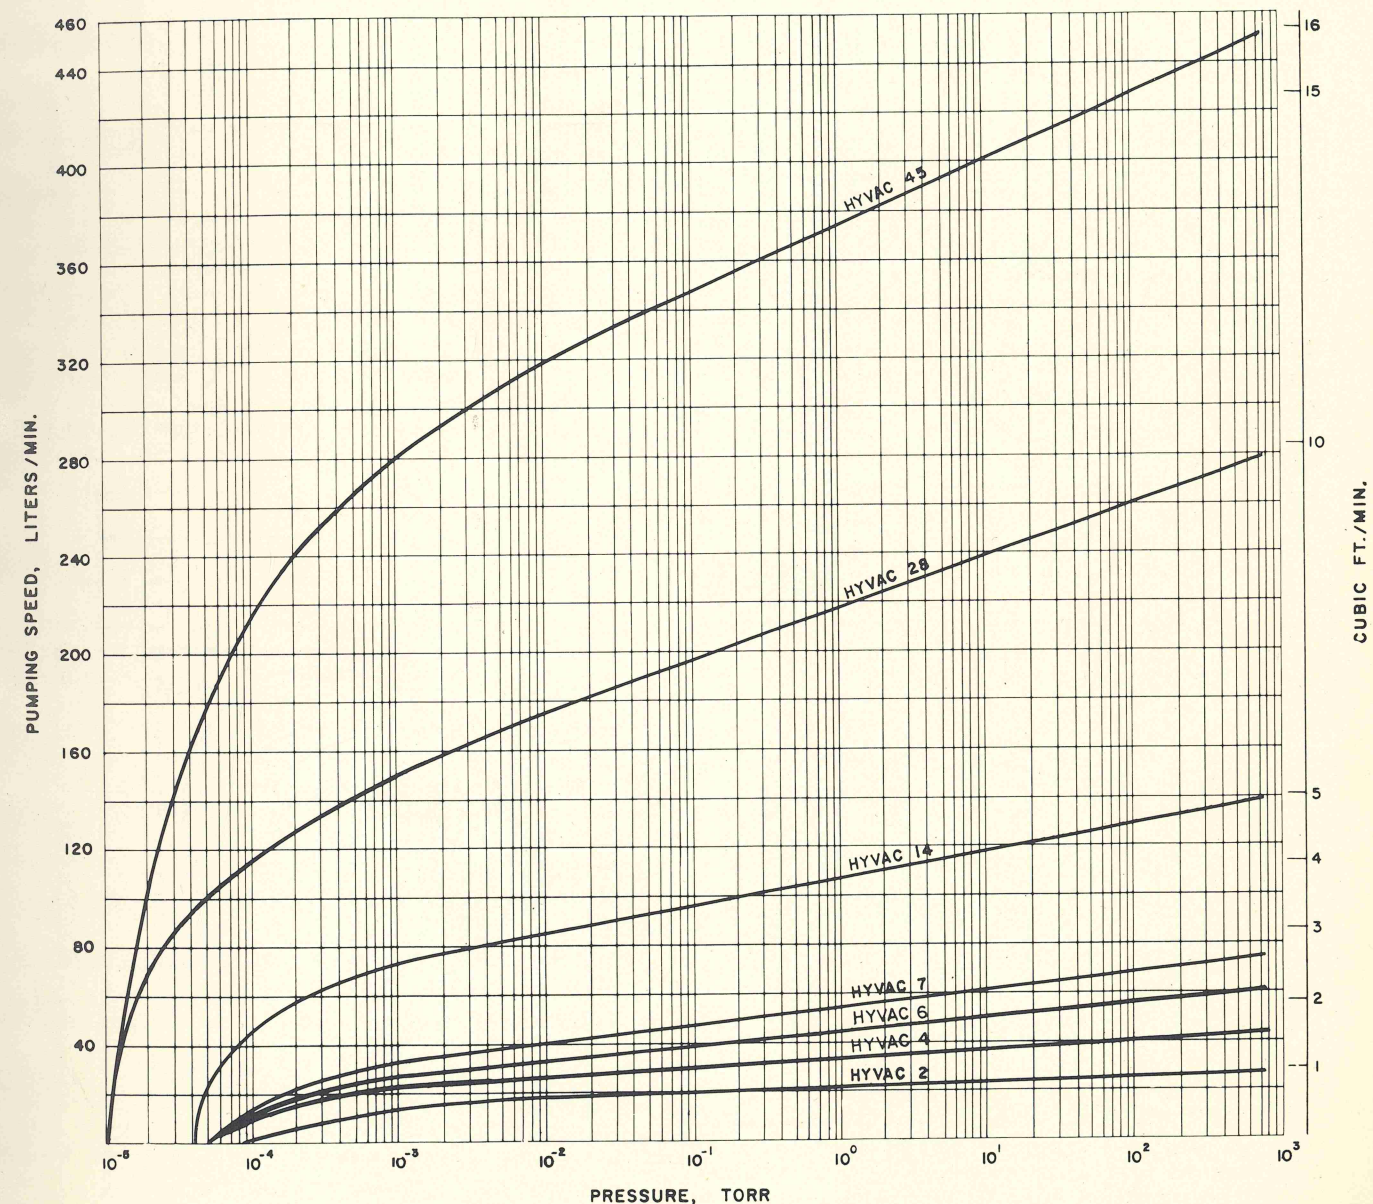

Fig. 2—Pumping speed and pressure characteristics of the Cenco Hyvac 2, 4, 6, 7, 14, 28, and 45 Pumps
3.1 Pump Data: The speed-pressure characteristics of the Cenco Hyvac Pumps are illustrated in Fig. 2. The following table lists additional pump data and specifications:
where S_1 is the pumping speed, taken from Fig. 2, and Z is the conductance of all the tubing or the connecting line between the pump and the system. The time required to evacuate a vessel of volume V is given by the formula: